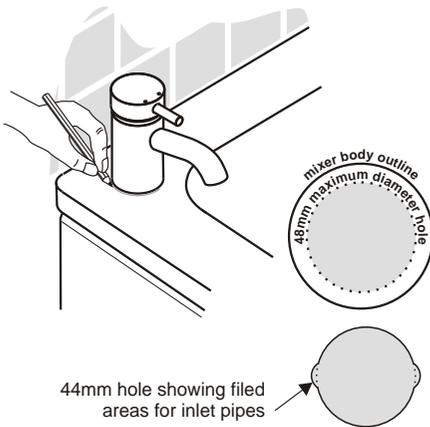

Figure 2
e.g. A 1½" (44mm) cutter can be used and the hole filed out locally to accommodate the inlet pipes. (Figure 2)
Before fitting the tails, offer up the bath S/L in the intended location and check for free movement of the lever. Draw a pencil line around the base (Figure 2)
In the center of the of the outline, drill the 48mm hole. (Figure 2)